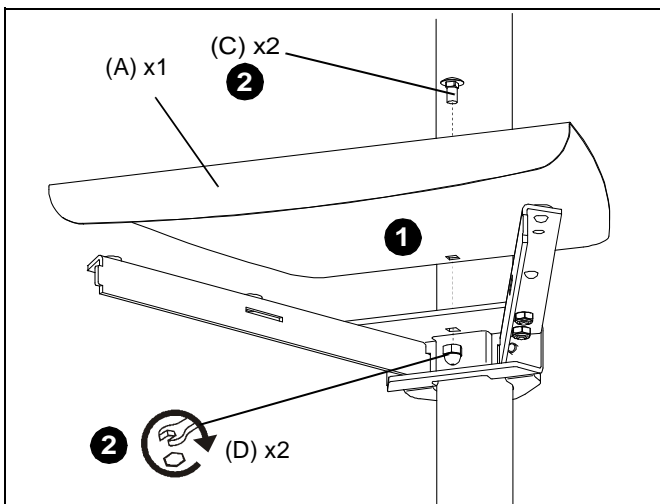

Figure 3
1. Align square mounting hole in shelf (A) with mounting hole in top of shelf base (B1 or B2). (See Figure 3)
2. Secure shelf (a) to shelf base (B1 or B2) using one carriage bolt (C) and one lock nut (D). (See Figure 3)